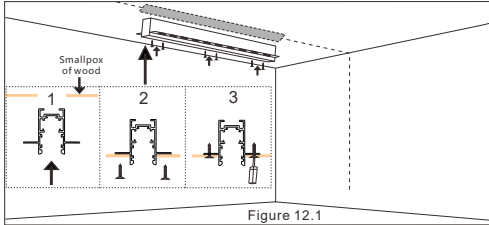

Figure 12.1
2. Embed the track into the perforated ceiling and fix both sides of the track with self-tapping screws to check whether the track is securely mounted; (Figure 12.1)